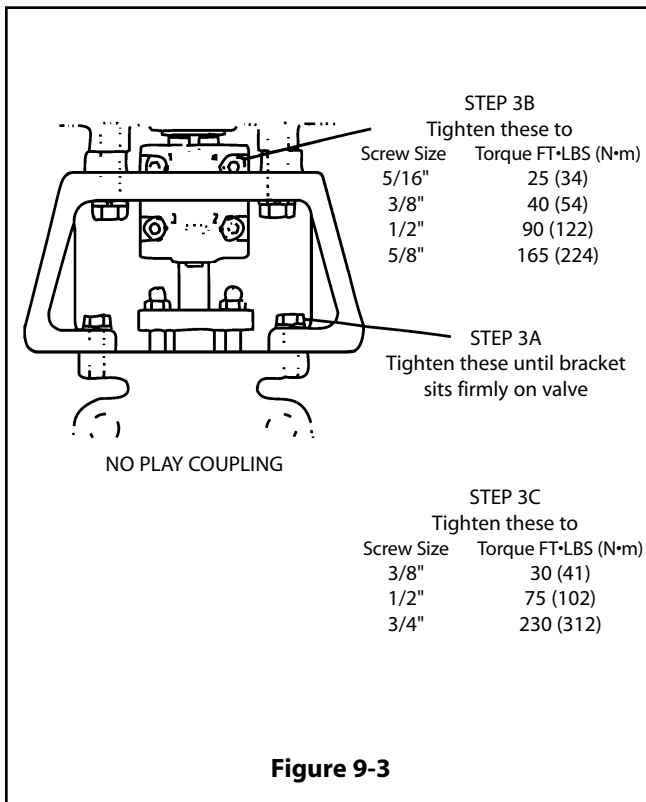

Figure 9-3
4. Lower actuator and bracket onto valve while engaging actuator stem driver into coupling. Tighten screws just enough to firmly mate bracket to valve. This should allow bracket to shift, allowing the coupling to align the valve and actuator shafts. **(See Figure 9-3, Step 3A.)**
5. Tighten the no-play coupling screws to torques shown in **(Figure 9-3, Step 3B)**. Use alternating sequence shown.
7. Fully tighten the screws holding the bracket to the valve, as shown in **(Figure 9-3, Step 3C)**.
8. Recheck no-play coupling screw torques, using the torques in **(Figure 9-3, Step 3B)**. Use alternating sequence shown.